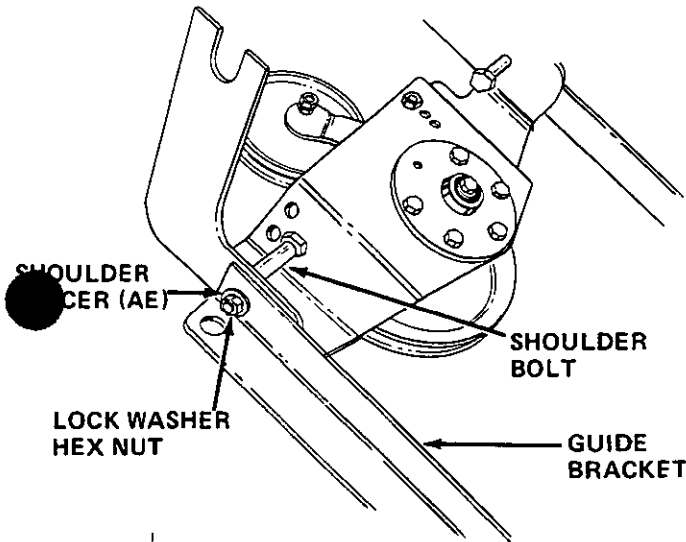

FIGURE 3
4. Secure guide bracket to PTO support bracket using hardware removed in step 3 and the shoulder spacer (AE). See figure 3.
8. Remove the five patch bolts and lock washers which secure the drawbar hitch plate to the rear plate of the transmission. See figure 3.